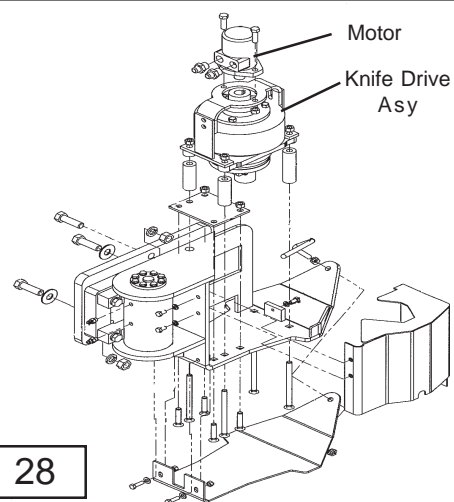

Figure 28
- 10.** Install the Tube spacers over the carriage bolts, remember the long ones go in the front and the short ones go in the rear. Set the drive assembly down over the four bolts where it is setting on the four tube spacers. Install the motor adapter down over the same four bolts (See Figure 28), The Drive assembly can be tightened down now, these are 1/2" grade 8 plow bolts and should be torqued to 100 to 110 ft. lbs.
- 13.** Install the Motor onto the hub adapter by aligning the Key on the motor shaft with the key slot in the adapter hub. Install and tighten the two 1/2"-NC X 1-1/4" GR 5 bolts that retain the motor to the drive assembly (See Figure 28). the hoses should all ready be connected, but if they are not you will need to consult the hydraulic schematic (See Figure 1) showing the hose routing for the motor.